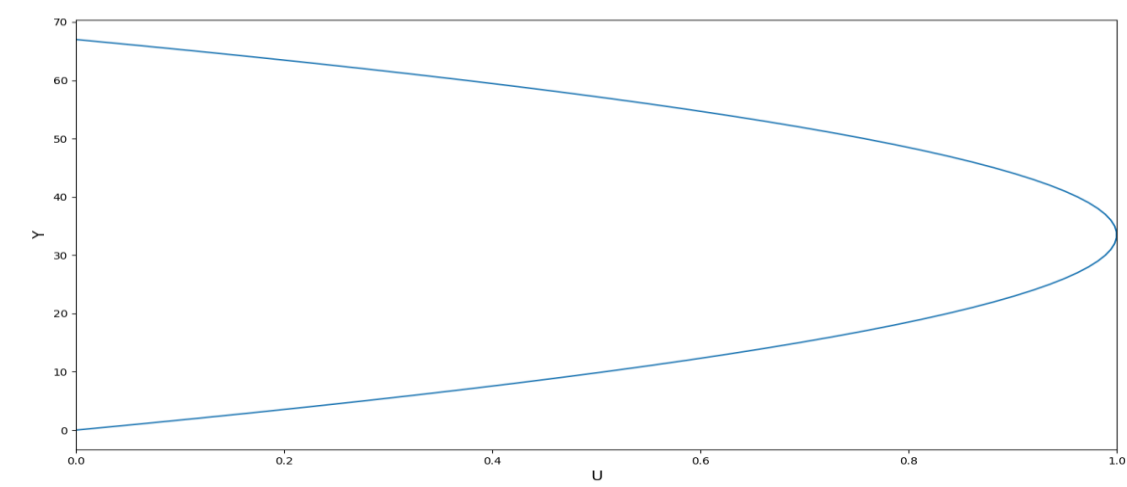

Figure 3: Velocity profile with Y for U at mid-x at steady state
- Figure 3. Is the velocity profile at mid-x which shows peak velocity to be 1.0 at the centerline.